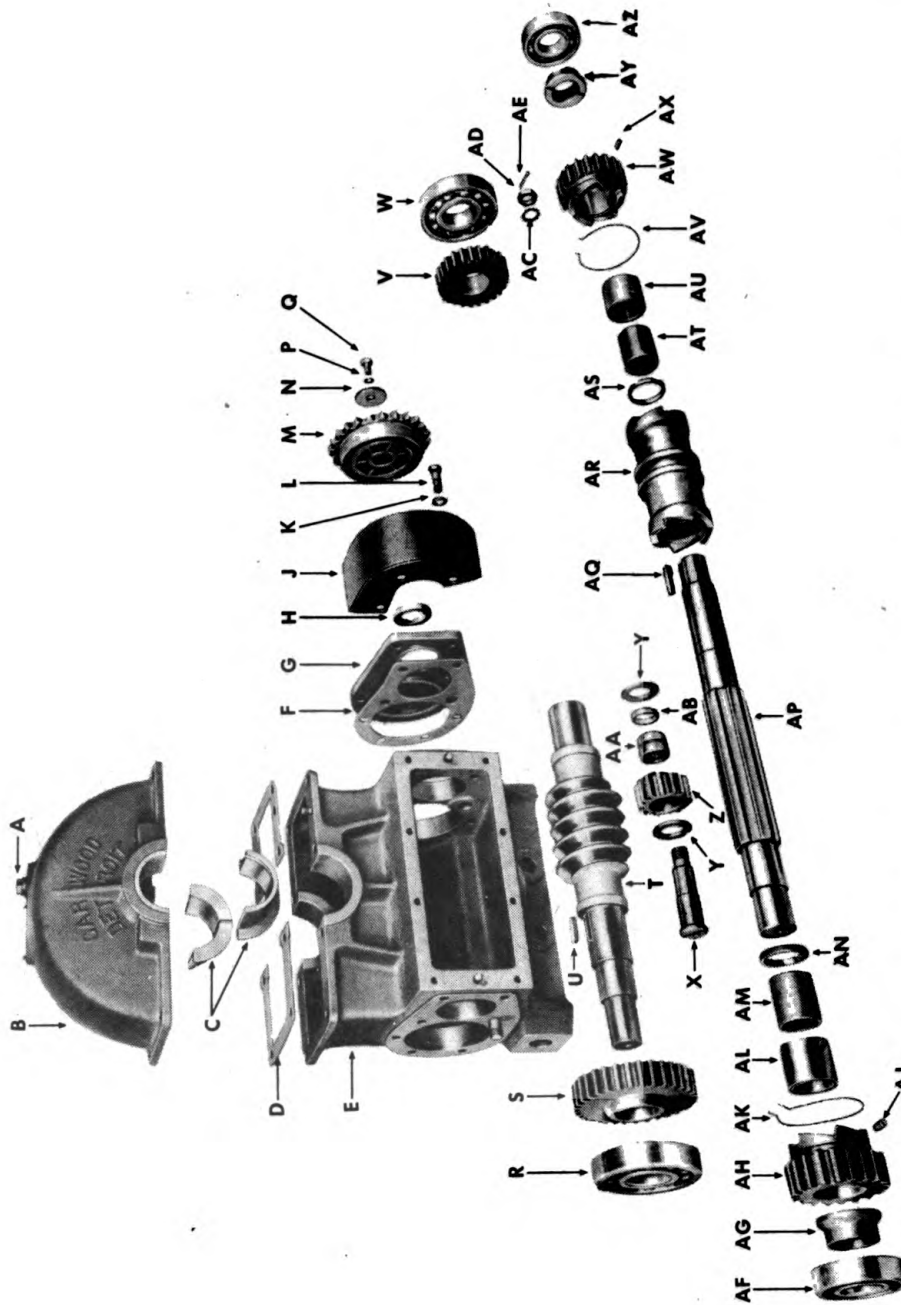

Figure 45 — Front Tandem Winch Gear Case — Disassembled
Legend for Figure 45
a. Disassembly (fig. 45). The gear case assemblies for the front and rear tandem winches are identical, except that the parts are in a reverse position, with the shifter cover and sliding clutch on opposite sides. The procedure in this paragraph applies to the front tandem winch gear case assembly, and the procedure can also be followed for the rear tandem winch gear case assembly.
(1) **REMOVE SPROCKET GEAR CASE COVER AND SPROCKET SHIELD** (fig. 45). Remove cap screw, lock washer, and retaining washer from end of input shaft. Pull sprocket from shaft and remove key. Remove seven cap screws and lock washers, one cotter pin, castellated nut, and lock washer which hold gear case cover and sprocket shield to case. Remove shield end cover and gasket. **NOTE:** *Two of the gear case cover bolts on rear tandem winch secure throttle control lever, quadrant, and mounting plate.*
(2) **REMOVE REVERSE IDLER GEAR** (fig. 45). Drive reverse idler pin (X) out through inside of gear case, and remove pin with bearing attached. Remove two thrust washers, spacer, and reverse idler gear from reverse idler pin. Press bearing from idler gear.
(3) **REMOVE INPUT SHAFT** (fig. 45). Drive input shaft away from sprocket end of case until bearing at opposite end of shaft is out of case; then pull bearing off shaft. Remove thrust collar from input shaft, remove lock wire from lock screw on clutch gear (right-hand), and remove lock screw. Swing end of shaft out of case and remove clutch gear. Press bushing and sleeve from clutch gear (right-hand). Remove lock wire from lock screw on remaining clutch gear (left-hand), and remove lock screw. Remove input shaft from gear case, and remove ball bearing from end of shaft.
(4) **REMOVE SLIDING CLUTCH** (fig. 45). Remove thrust collar, clutch gear (left-hand) clutch gear spacer, and sliding clutch from shaft. Press bushing and sleeve from clutch gear (left-hand).
(5) **REMOVE WORM** (fig. 45). Drive worm (T) toward sprocket end of case, and remove ball bearing. Pull gear (25 teeth) from shaft, and remove key from worm. Pull worm forward through hole in case until remaining gear (33 teeth) is against inside of case at sprocket end. Drive gear and ball bearing from end of the worm, remove worm from case, and lift key from worm.
(1) **INSTALL WORM** (fig. 45). Install key in gear (33 teeth) end of worm, and place worm in position in gear case. Press ball bearing and gear (33 teeth) onto end of worm, being sure ball bearing is positioned with part number side toward gear case. Install key on opposite end of worm, and press other gear (25 teeth) and bearing on worm, and into case.
(3) **INSTALL REVERSE IDLER GEAR** (fig. 45). Press bearing into idler gear. Install gear, spacer, and two thrust washers on reverse idler pin. Drive reverse idler pin into case.
(4) **INSTALL SPROCKET AND SPROCKET SHIELD** (fig. 45). Cement new gasket to gear case and cover. Position cover and sprocket shield on case, securing cover and shield to case with seven cap screws and lock washers and one lock washer, castellated nut, and cotter pin which also secures reverse idler pin in case. Install key in end of input shaft, and press sprocket into position on shaft. Install retaining washer, lock washer, and cap screw over sprocket and in end of input shaft.